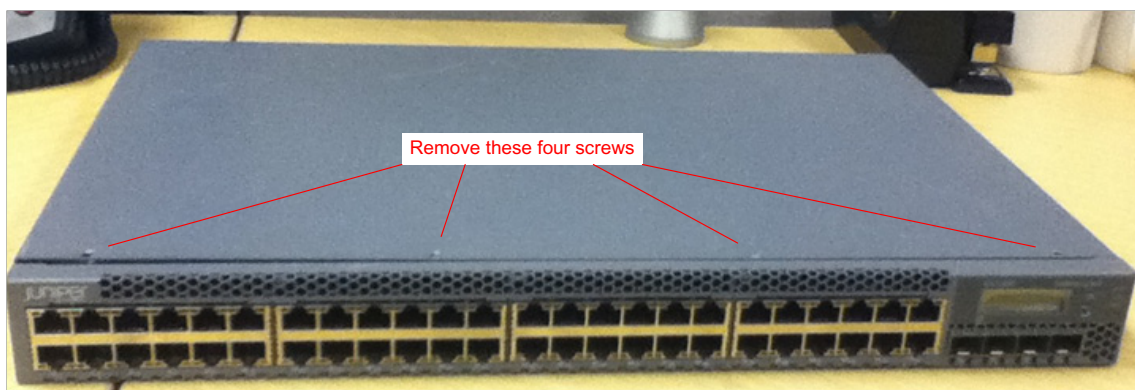

Figure 3-1: EX3300 Top side screws
| Figure 3-1: EX3300 Top side screws | 3 |
1. Remove the four screws from the top of the system (Figure 3-1)